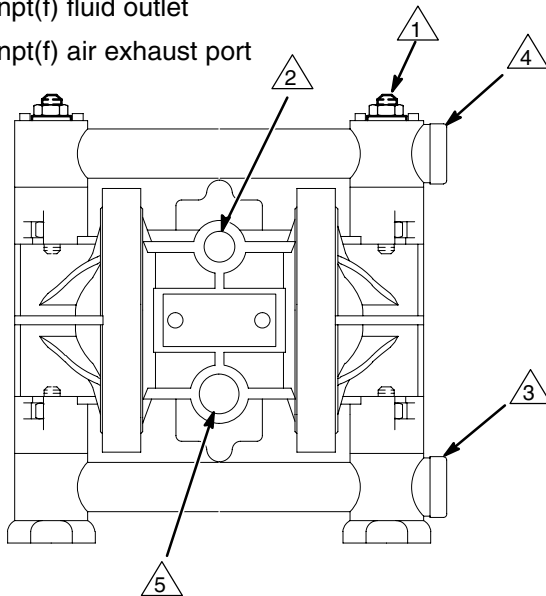
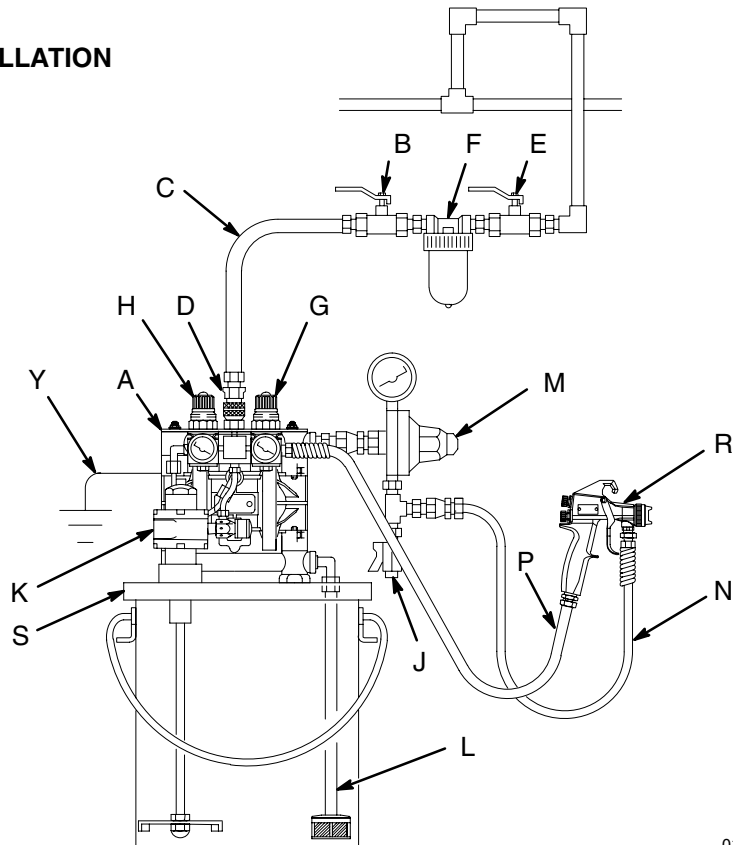

Fig. 2
Fig. 5
- a. The fluid pressure can be controlled in either of two ways. To control it on the air side, install an air regulator (H). To control it on the fluid side, install a fluid regulator (M) near the pump fluid outlet (see Fig. 5).
- b. Locate one bleed-type master air valve (B) close to the pump and use it to relieve trapped air. See the **WARNING** above. Locate the other master air valve (E) upstream from all air line accessories and use it to isolate them during cleaning and repair.
- c. The air line filter (F) removes harmful dirt and moisture from the compressed air supply.
2. Install an electrically conductive, flexible air hose (C) between the accessories and the 1/4 npt(f) pump air inlet (see Fig. 2). Use a minimum 1/4" (6.3 mm) ID air hose. Screw an air line quick disconnect coupler (D) onto the end of the air hose (C), and screw the mating fitting into the pump air inlet snugly. Do not connect the coupler (D) to the fitting yet.
- The pump fluid inlet is 3/8 npt(f). See Fig. 2. Screw the fluid fitting into the pump inlet snugly. Use a compatible liquid thread sealant or PTFE tape on connections to prevent air from getting into material line.
- Use electrically conductive fluid hoses (N). The pump fluid outlet is 3/8 npt(f). See Fig. 2. Screw the fluid fitting into the pump outlet snugly.
- Install a fluid regulator (M) at the pump fluid outlet to control fluid pressure, if desired (see Fig. 5). See **Air Line**, step 1a, for another method of controlling pressure.
- Install a fluid drain valve (J) near the fluid outlet. See the **WARNING** above.
The pump is shipped with the fluid inlet and outlet ports facing the same direction. See Fig. 2. If desired, the direction of one or both ports can be changed. Remove the manifold(s) from the pump as explained in steps 1, 2, and 4 on page 21. Reattach with the port facing the desired direction. See **Torque Sequence**, page 32. **Do not over-torque.**